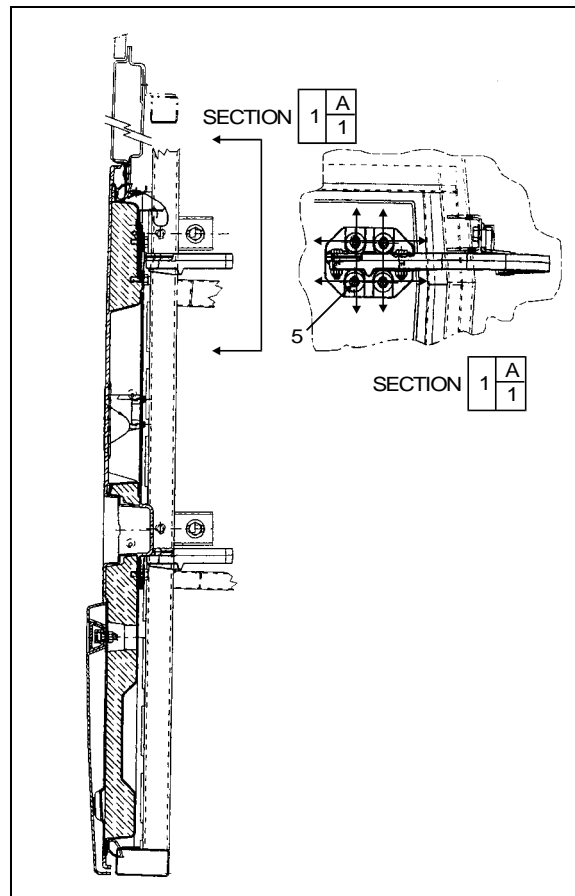

FIGURE 81: FRONT SERVICE DOOR
- Loosen screws (5, Figure 81) to allow the door to be shifted "UP or DOWN".